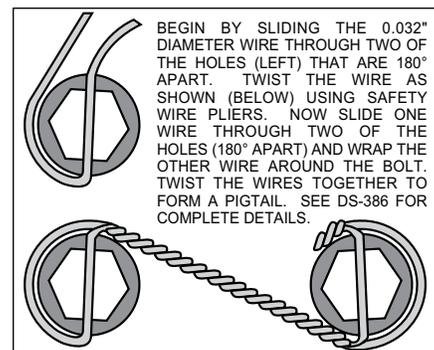

Figure 3. Safety Wire Diagram
•The flat spindle/caliper mounting bracket (1) should be installed first with clean, dry threads on the mounting bolts. Install the bracket on the back side of the spindle by sliding bolt (2) through the bracket (1) and into the upper hole of the spindle upright boss. Apply red *Loctite*® 271 to the threads and torque bolt (2) to 140 ft-lb. Slide bolt (3) through lower spindle “ear”, through the bracket (1), washer (4), and secure with locknut (5). Torque locknut (5) to 65 ft-lb. The bracket must tighten squarely against the side of the spindle body. Inspect for interference from casting irregularities, machining ridges, burrs, etc.
•With the larger I.D. side of the rotor (6) facing away from the hat (7), bolt rotor (6) to hat (7) through the backside of the rotor using bolts (9), and washers (8). Apply red *Loctite*® 271 to the bolt threads and torque to 155 in-lb using a criss-cross pattern. For an added measure of security, the bolts may be safety wired using standard 0.032 inch diameter stainless steel safety wire as shown in Figure 3. Please refer to Wilwood’s data sheet DS-386 (available at [www.wilwood.com/Pdf/DataSheets/ds386.pdf](http://www.wilwood.com/Pdf/DataSheets/ds386.pdf)) for complete safety wire installation instructions.